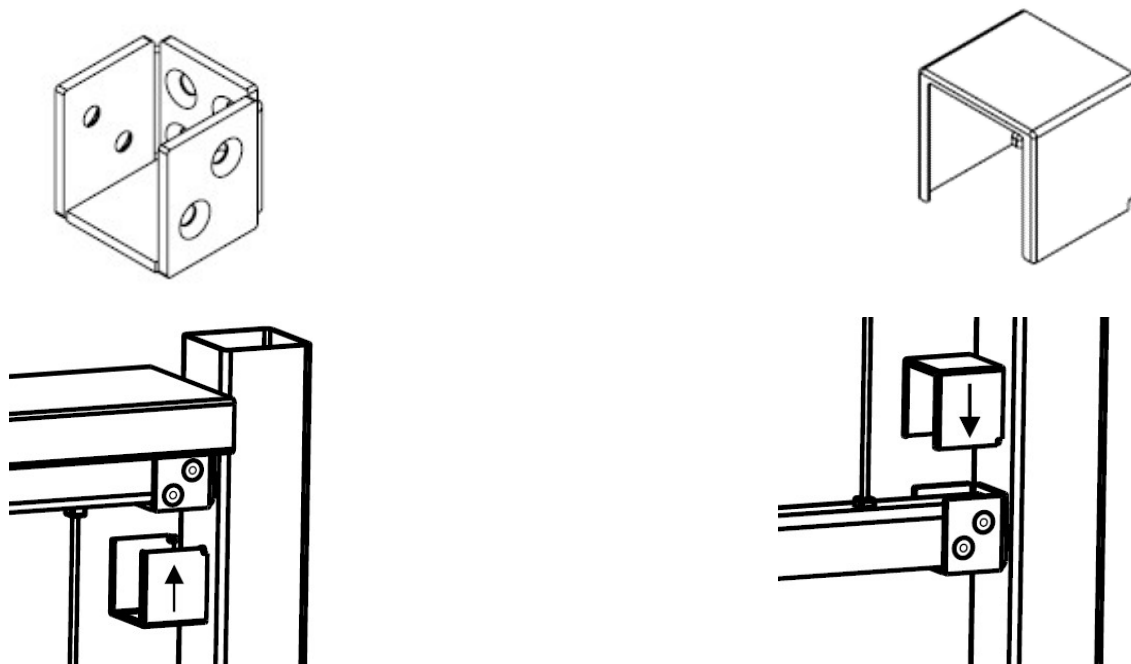

FIGURE 2: UNIVERSAL RAIL BRACKET AND ASSEMBLY
3.1.3 Top and bottom rails are connected to posts using steel mounting brackets. See Figure 2.